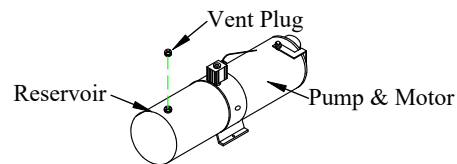

Figure 16: Vent plug.
7. **Install** the vent plug provided into the pump reservoir (Figure 16).